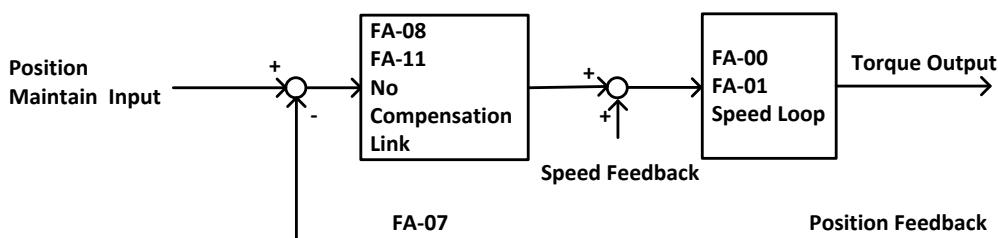

FIGURE 6.16 FLOWCHART FOR ELEVATOR STARTING WITHOUT LOAD COMPENSATION
- 1) Principles: As can be seen in Figure 6.16 below, when brake open, based on the position feedback from Sine/Cosine PG card, system can calculates the necessary torque required for motor to remain the steady position under current load, and it gives corresponded torque at once to minimize the traction sheave movement and to achieve comfortable start.